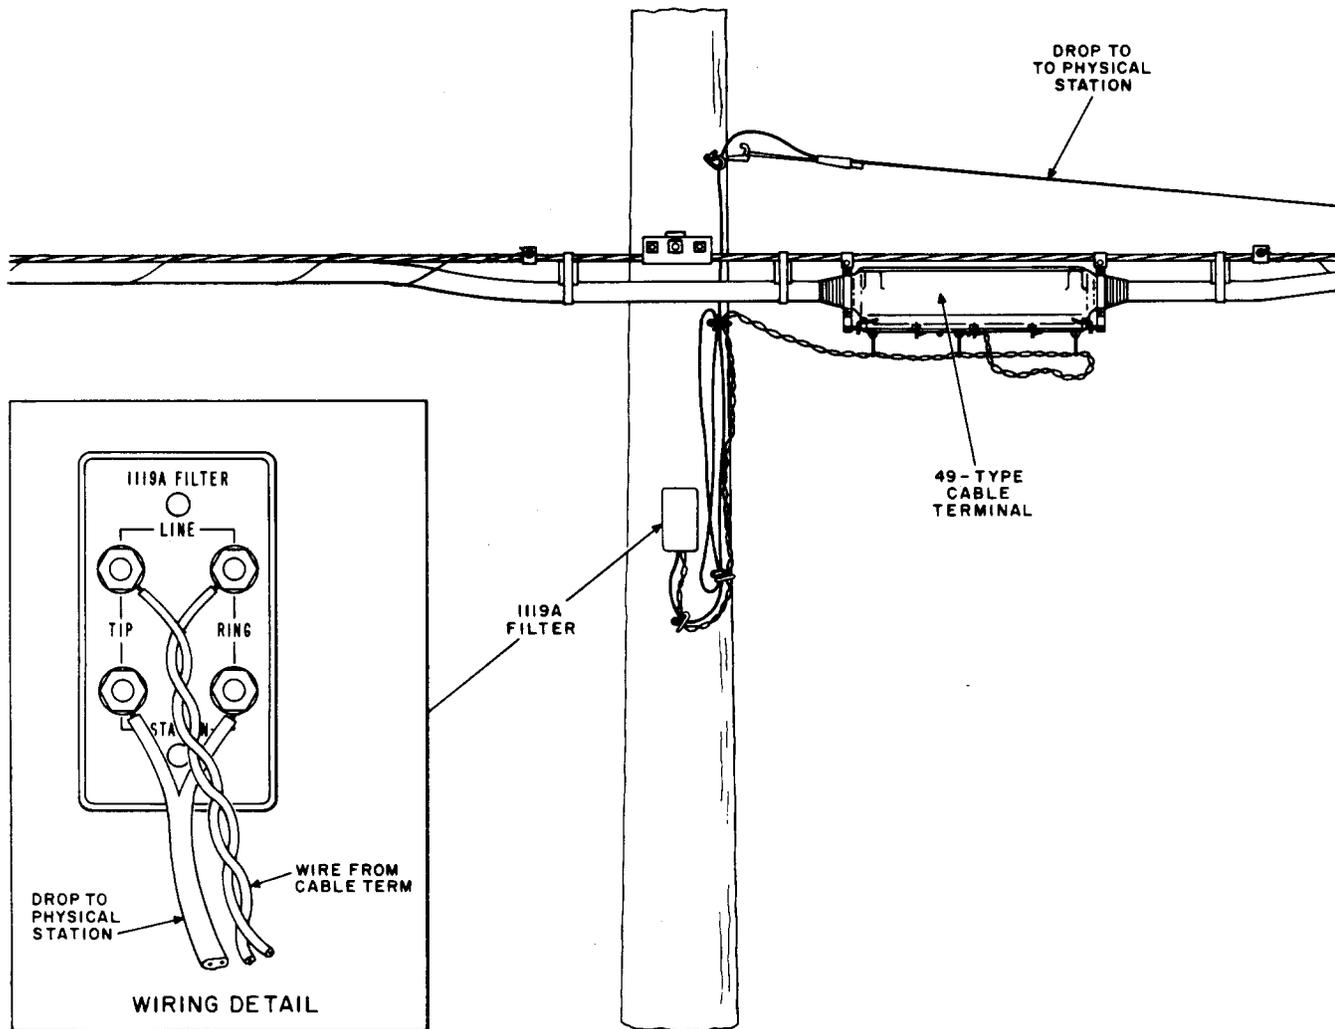

Fig. 5—Mounting of 1119A Filter on Pole—Showing Wiring Detail
3.02 For aerial cable terminal installation of filter, mount filter on the pole adjacent to cable terminal (Fig. 5), and transfer the drop into filter. Terminate the drop on terminals designated STATION and tape back any slack in drop wire. Do not cut slack out of the drop wire so that original wiring can be restored if the filter is removed later. Run bridle or other approved weather-proof wire from LINE terminals on filter to cable terminal binding posts where drop was removed. Test line according to local procedure just as for any other line transfer.